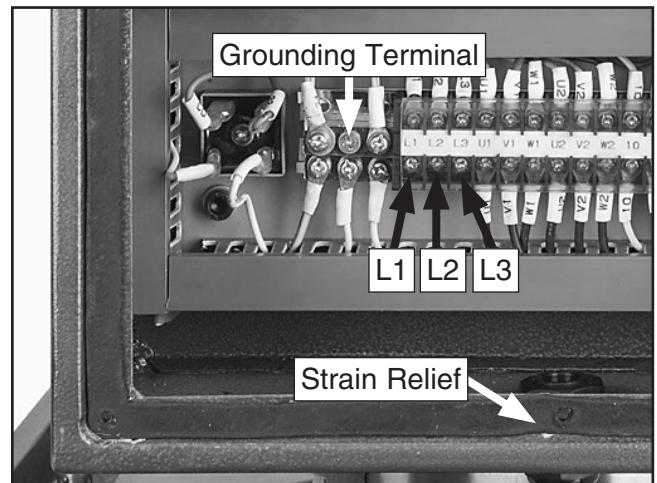

Figure 8. Location of hot wire terminals, ground terminal, and strain relief.
2. Identify the L1, L2, and L3 terminals and the grounding terminal (see **Figure 8**).
3. Thread the power cord through the strain relief shown in **Figure 8**.